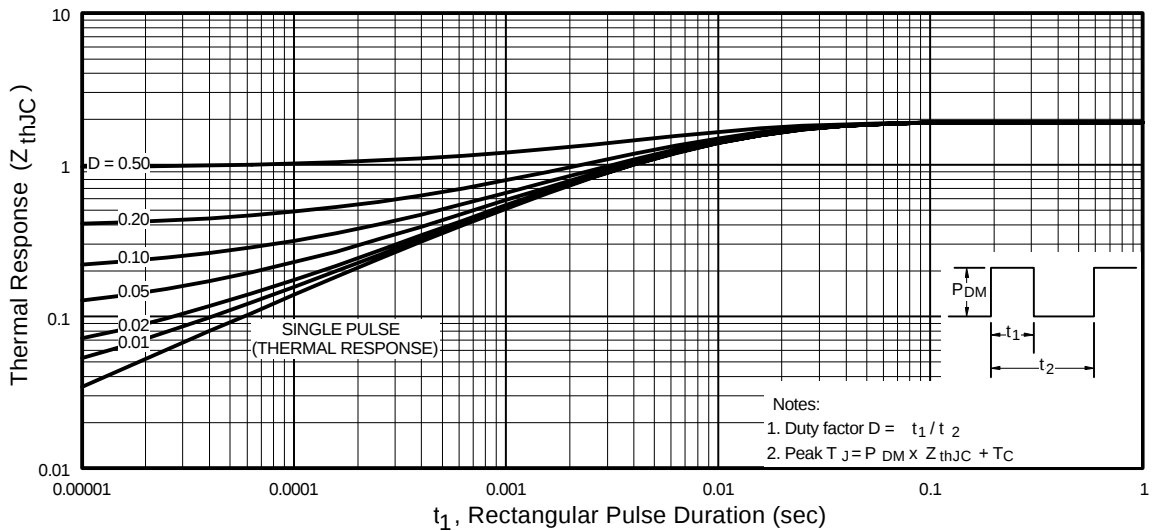

Fig 11. Maximum Effective Transient Thermal Impedance, Junction-to-Case
① Repetitive rating; pulse width limited by max. junction temperature. (See fig. 11)
② Starting $T_J = 25^\circ\text{C}$, $L = 7.0mH$